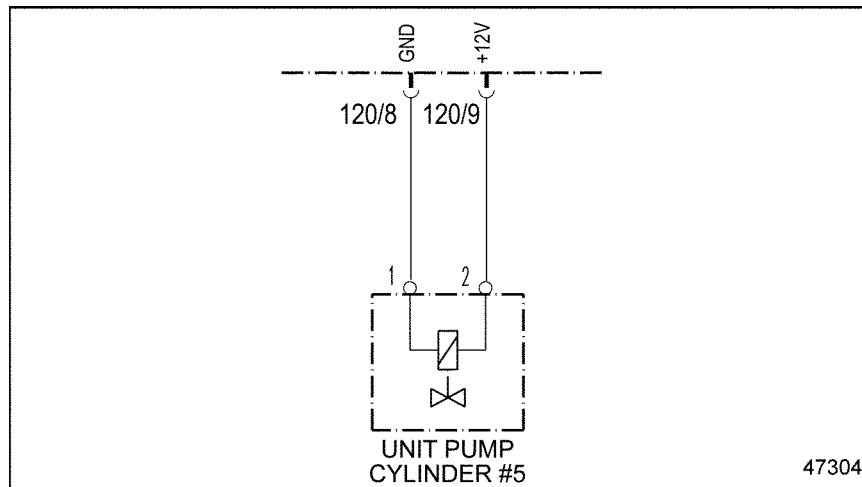

Figure 49-1 Electronic Unit Pump #5
2. Measure the voltage between pins 1 and 2 of Electronic Unit Pump #5. See Figure 49-1.